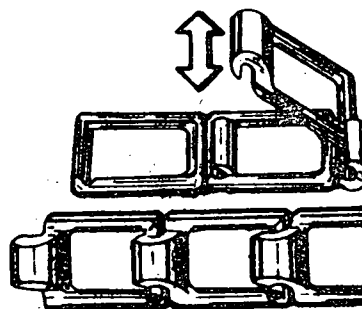

Fig. 4
- b) Slide the link sideways until it comes out (Fig. 4). Gently tap it with a hammer until it is removed.